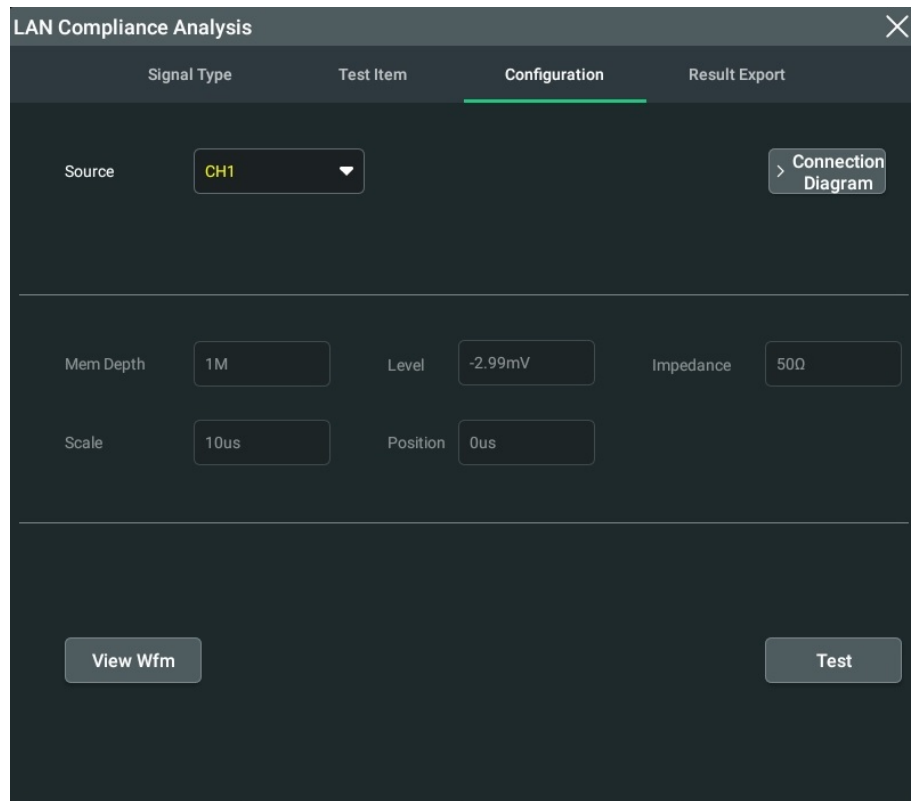

Figure 4.36 Test Configuration
4. After the specified signal type and test item are selected, the oscilloscope outputs a waveform based on the automatically set parameters such as level, scale, and impedance. Click or tap the **Configuration** tab to enter the "Configuration" menu. In this menu, you can view the parameters, as shown in *Figure 4.36*.